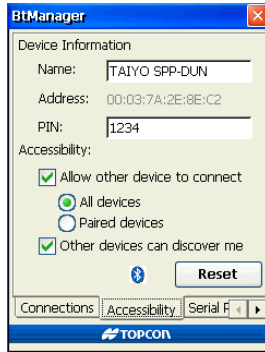

Figure 3-4. Check Bluetooth Module Accessibility Settings
3. Tap the *Accessibility* tab to check the current state of the Bluetooth module (Figure 3-4 on page 3-4). For most applications, the following parameters should be enabled: